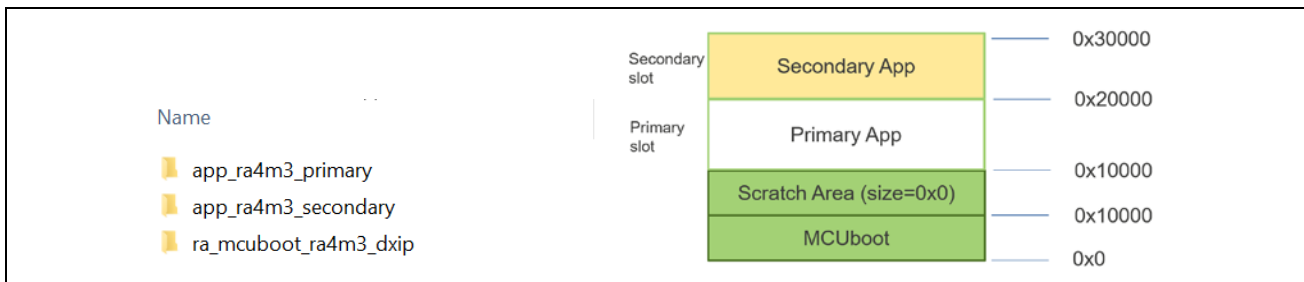

Figure 27. Example Projects for RA4M3 Direct XIP Update Mode
2. Import the project under folder `\ra4m3_dxip_with_bootloader_flat` to a workspace and see the following set of example projects in Figure 27.